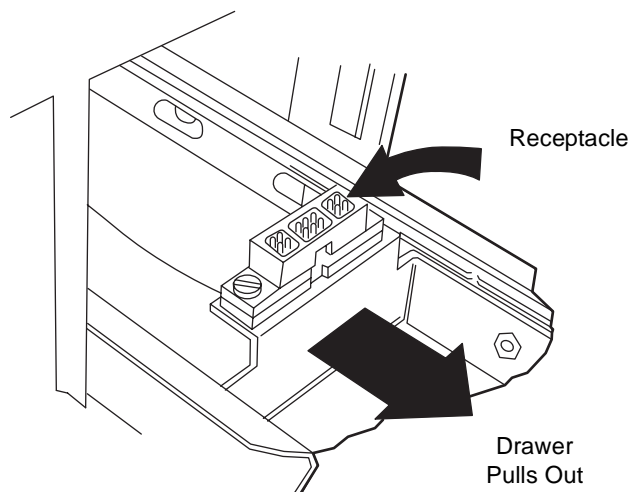

Figure 2-13 Column Heater Signal Cable Connection
3. Pull the drawer toward you and locate the receptacle at the back of the drawer (Figure 2-13). Plug the signal cable into the receptacle on the right side of the drawer. The receptacle is keyed to ensure correct alignment.